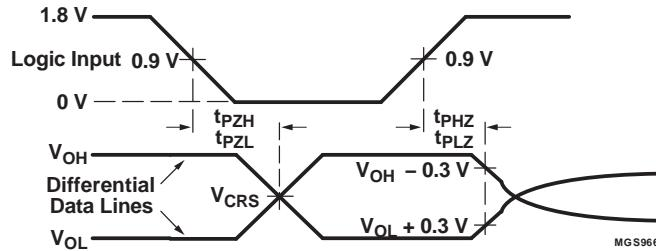

Figure 2. \overline{OE} to D+, D-
(1) Test circuit, see Figure 2
(2) Driver timing in low-speed mode is not specified. Low-speed delay timings are dominated by the slow rise/fall times t_{LR} and t_{LF} .